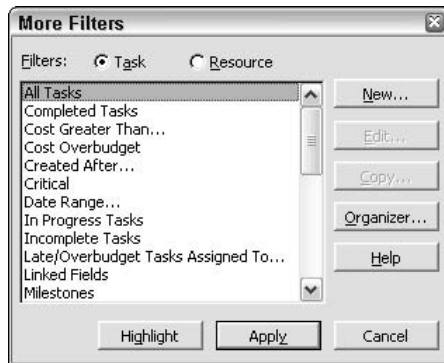

Figure 7-30: Use the More Filters dialog box to apply a filter that doesn't appear on the Filtered for list or to apply a highlighting filter.
2. Choose Project→Filtered for→More Filters. Project displays the More Filters dialog box, as shown in Figure 7-30.